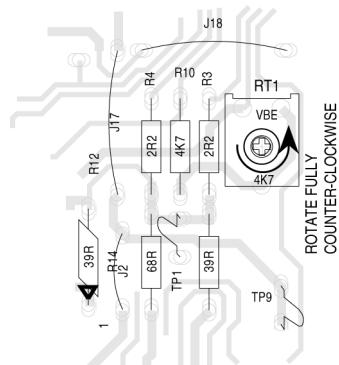

Figure 2
4. Rotate the trim pot RT1 fully counter - clockwise as in figure 2. Inspect and replace any resistors that look burnt. Measure all of the resistor values coloured YELLOW on the assembly drawing. The value that you measure may not be exactly what is shown on the assembly drawing but if the resistor doesn't look damaged it should measure within + or - 5% of the printed value.